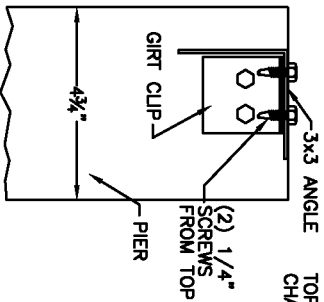

FIGURE 20
**STEP 17: INSTALLING TOP ANGLE AND BACK WALL TOP CAP FASTEN TOP ANGLE TO CLIPS WITH (2) 1/4x 3/4 HEX HEAD SELF DRILLING SCREWS AT EACH END (SEE FIG. 20 FOR PLACEMENT).**